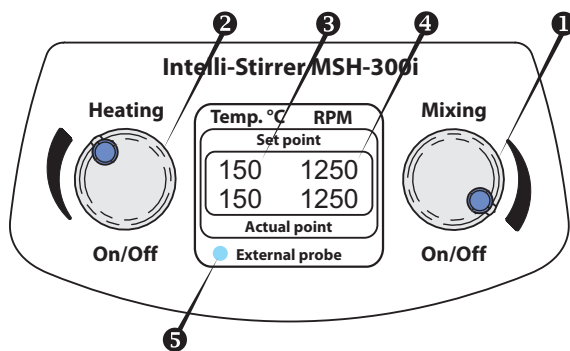

Fig.1 Control panel
- on the upper line Set point: temperature mode indication (OFF) or previously set temperature (fig.1/●) of a heating surface or liquid (if external probe is activated) and set speed of magnetic stirring element (fig.1/●) in the upper line;
- 4.5. Using the **Heating** knob (Fig. 1/②) switch On and adjust the temperature to the necessary level (in range from 30°C to 330 °C).
- 4.6. Connect the external probe to the unit via K type connector located on the rear side of the unit. External probe lamp indicator lights up on the control panel (fig.1/⑤), now the temperature control proceed via external probe.
Using the **Heating** knob (Fig. 1/②) switch On and adjust necessary liquid temperature (in range from 20°C to 150 °C).
Caution! The flashing lamp indicator (Fig.1/⑤) show that external probe is not dipped into the liquid and the plate temperature achieves and maintains 340°C temp. This can lead to an emergency situation, dip the external probe into liquid or switch off the unit.
- 4.8. Using the **Mixing** knob (Fig. 1/①) switch On and adjust the speed to the necessary level (100 - 1250 RPM).